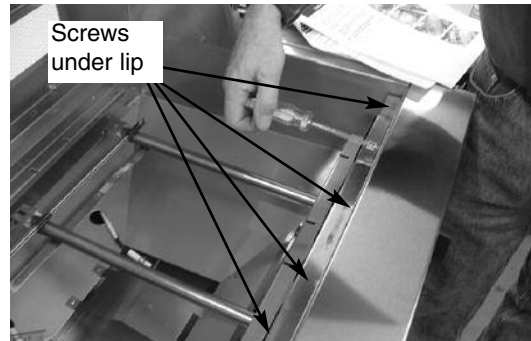

Fig 6
6. Loosen the six (6) screws at the top of the heat shield, holding the front heat shield in place. (See Fig. 6)
27. Proceed with reattaching the front heat shield (See Fig. 6, 7 & 8 on page 2)